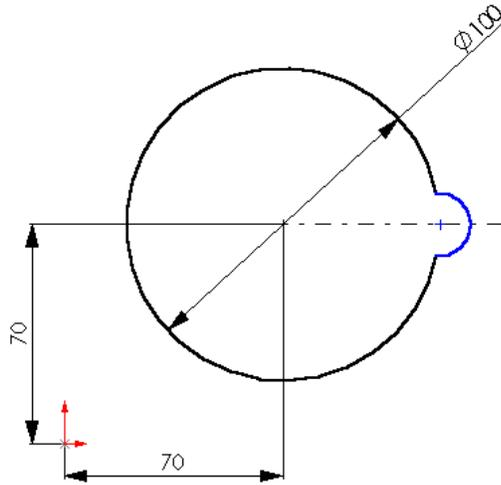

Figure 4-50 Sketch after trimming the unwanted portion
- b. Draw the outer loop of the sketch and then draw the sketch of three inner cavities. Finally, draw the six circles inside the outer loop, refer to Figures 4-50 through 4-54.
5. Trim the part of the sketch so that the sketch looks similar to the one shown in Figure 4-50.